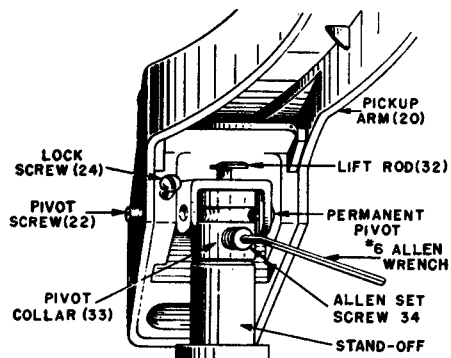

Figure 5. Pickup Arm Mounting Detail.
1. Insert the 45 RPM centerpost (2); set the speed change knob (19) to the "45" position; move the reject knob (42) to the "Rej" position and then rotate the turntable (clockwise) by hand JUST to the point where the pickup arm stops moving in toward the centerpost and starts moving downward. DO NOT ROTATE THE TURNTABLE BEYOND THIS POINT.
2. Insert a #6 Allen wrench into the Allen set screw (34) on the pivot collar (33) as shown in Figure 5. Do NOT loosen the Allen set screw.
(See Figure 5)